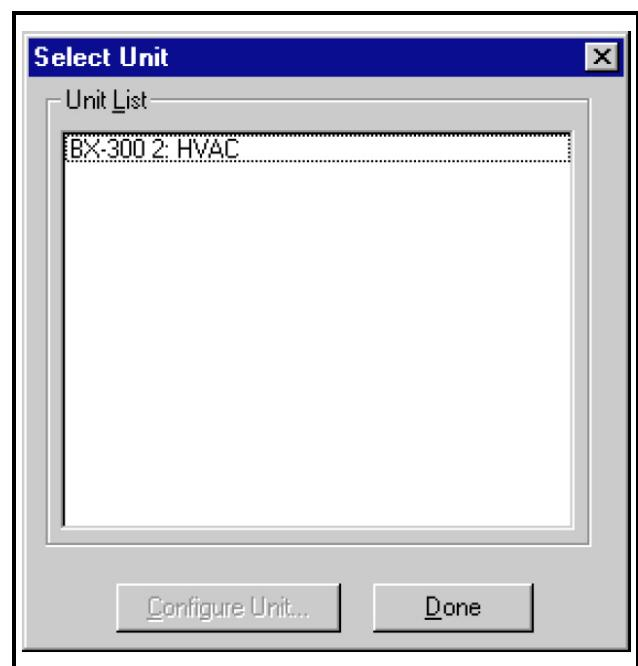

Figure 10-7 Unit Autopoll Setup Dialog Box
- The Select Unit dialog box (*Figure 10-7*) should appear. This box lists all units that are